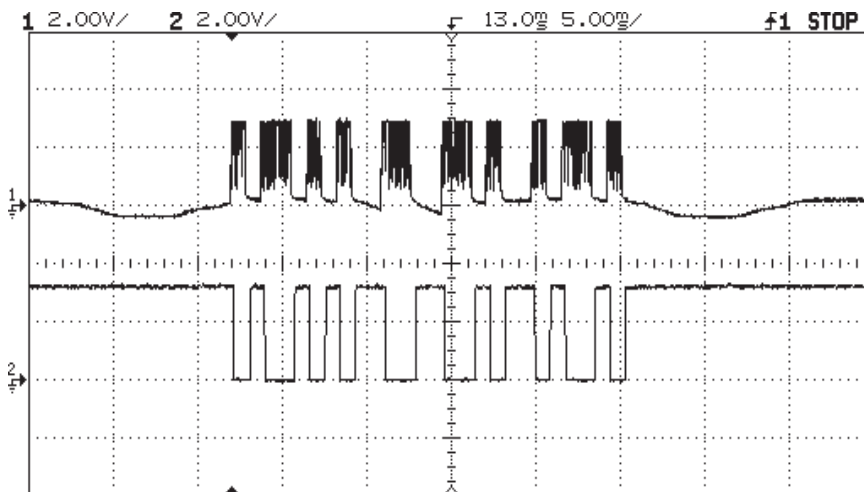

Figure 7
- Figure 7** shows the entire Manchester encoded power command sent to the VCR. Follow the wave on the bottom to learn how the signal is decoded. The first low and high pulses are of equal length meaning they represent one bit. As part of the protocol, this first bit has the value of one. The next long low pulse means the value of the bit has changed to a zero. The next two high and low pulses are short meaning the value of the bit has remained the same. Thus far, 1000 has been decoded in binary. The next four pulses are all long, representing 1010. Follow the remaining pulses to see that 1000101001100 was received.